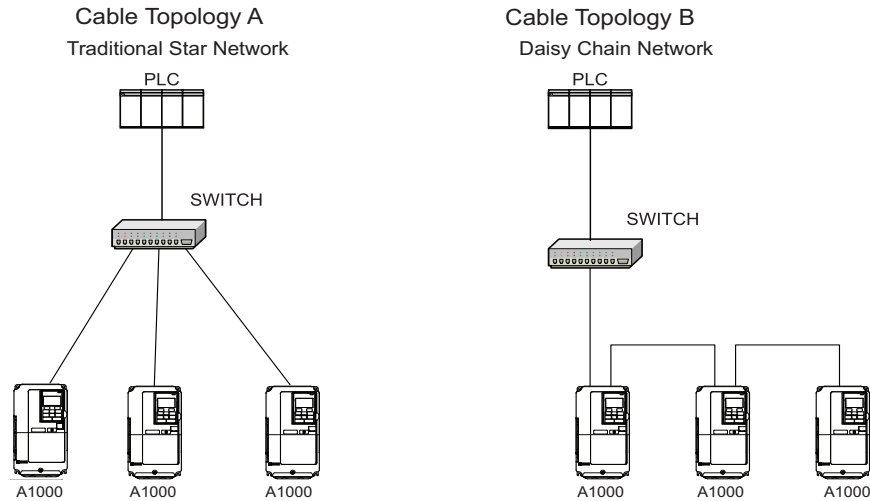

Figure 8 Topology Options
7. Use the second communication cable port to daisy chain a series of drives where applicable. Refer to Figure 8.